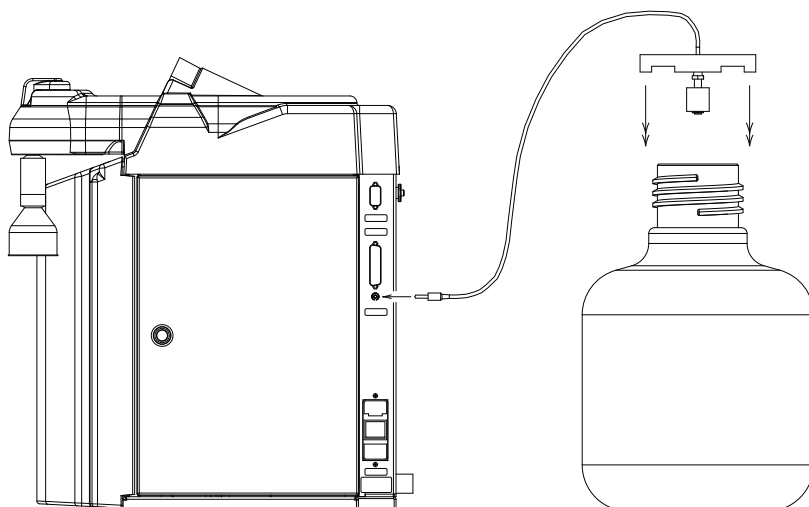

Figure 15: AY1367X1 Dispense Overflow Cutoff Float
1. Prior to initialing an automatic dispense (time or volumetric), plug AY1367X1 into connector on back right side of Nanopure. See Figure 15.